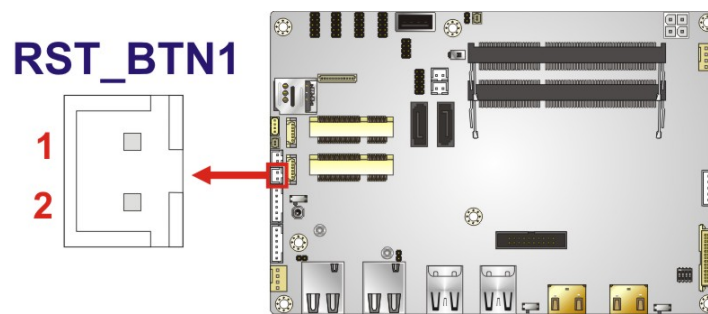

Figure 3-18: Reset Button Connector Location
- CN Location:** See **Figure 3-18**